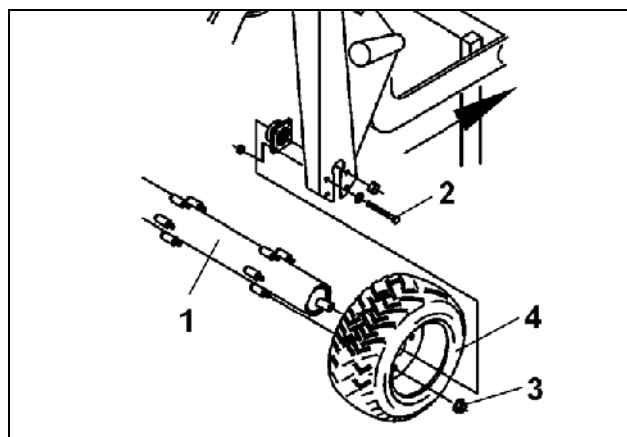

Fig. 122
- Secure roller by chocks against unintended rolling away and remove the roller (Fig. 122/1) For this remove the fixing bolt (Fig. 122/2) on both sides.
- Remove hex. nuts (Fig. 122/3) and pull the tyre (Fig. 122/4) off the roller.